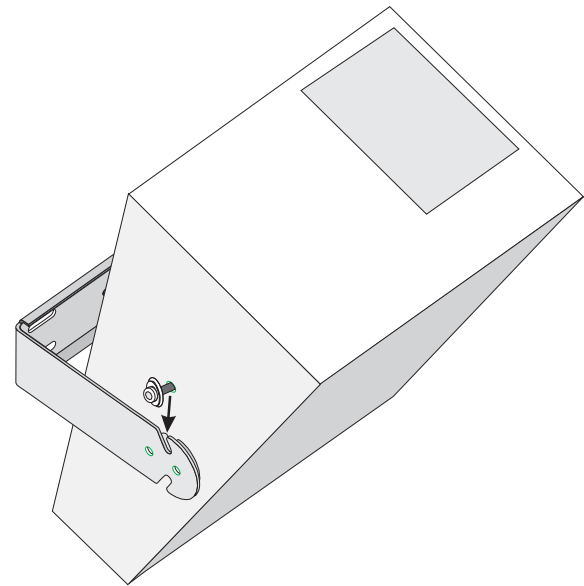

Figure 3- Loudspeaker installation using open slots.
Step 5a. If using the open slots, install the mounting screws, washers and split lock washers by threading the screws in about half way. Lift the loudspeaker into place and align the screws with the open slots (Figure 3); set in place and hand-tighten the screws. Tilt the loudspeaker to the desired angle and tighten screws securely. For more permanent installation use the captive holes.